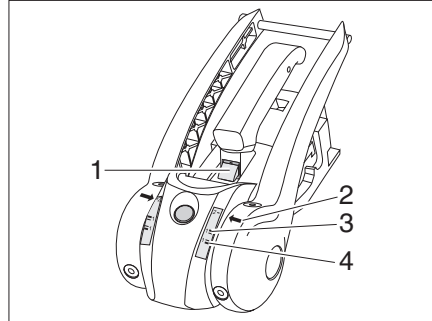

Fig. 150 Friction control of friction lining
- If the green marking (Fig. 150,1) is visible, the friction linings at the front and back are OK. If the green marking is no longer visible, the friction linings have to be replaced.
- If the arrow (Fig. 150,2) is below the softdock marking 1-green (Fig. 150,4), the friction linings on the right and left are OK. If the arrow (Fig. 150,2) is above the softdock marking 1-red (Fig. 150,3), the friction linings have to be replaced.
- If the green marking (Fig. 150,1) is visible, the coupling ball is OK. If the green marking is no longer visible, the diameter of the coupling ball < 49 mm and the coupling ball has to be replaced.